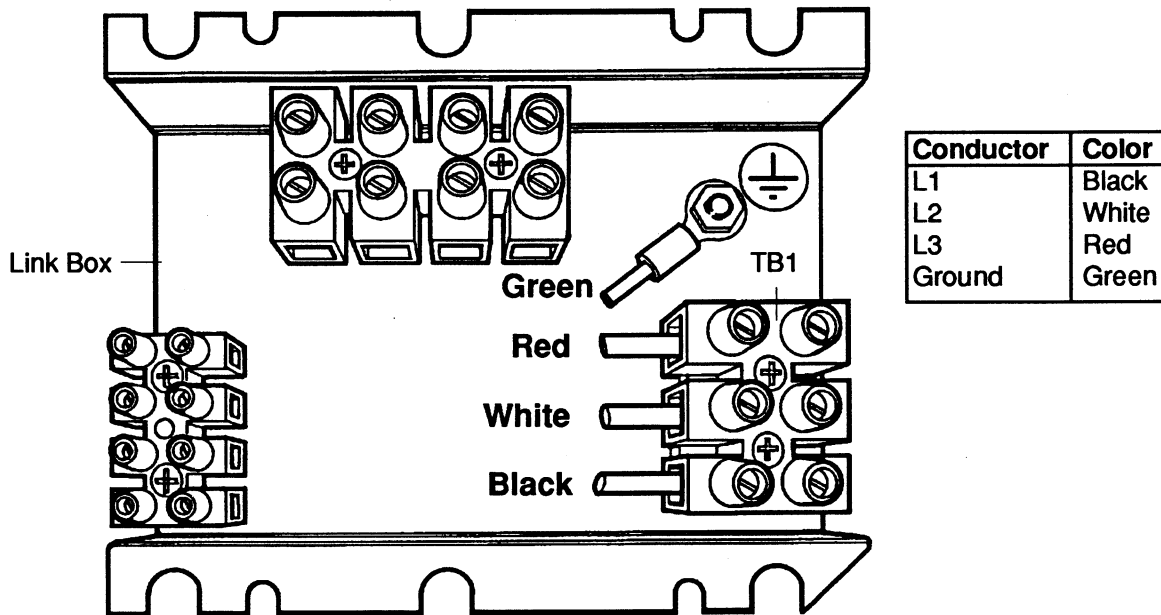

Figure 2-8 Connecting the Transformer Secondary Power Cord from 600V Transformer Case to Powermax800
1. Connect L1 (Black), L2 (White) and L3 (Red) of the three-phase transformer secondary power cord to TB1 of the link box as shown in Figure 2-8.